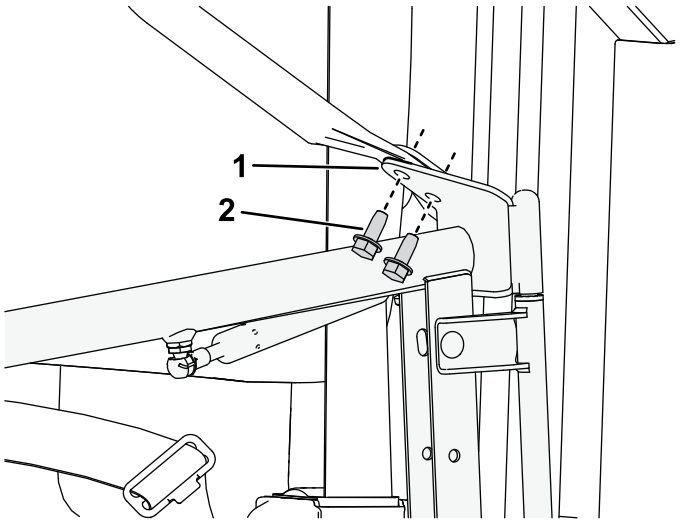

Figure 9
- Loosely secure the upper hinge of the door assembly to the shoulder restraint bracket using the screws removed in step 5 (Figure 9).